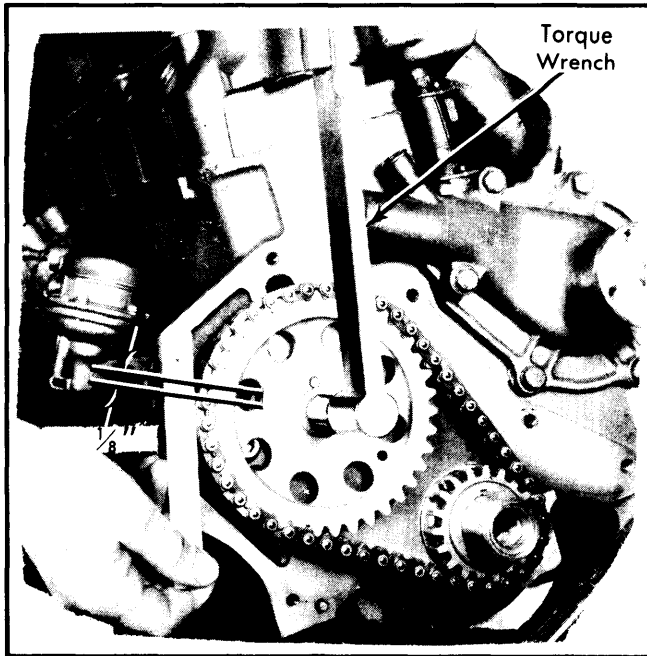

Fig. 13 Measuring Timing Chain Stretch
**Checking For Stretch** – 1) Position scale next to timing chain, to measure any movement of the chain. Place torque wrench with socket over camshaft sprocket bolt and apply torque in direction of crankshaft rotation to remove slack. See Fig. 13.
2) Torque should be 30 ft. lbs. with cylinder head installed and 15 ft. lbs. with head removed. Apply same torque in reverse direction and measure amount of chain movement. If movement exceeds  $\frac{1}{8}$ ", replace timing chain. See Fig. 13.